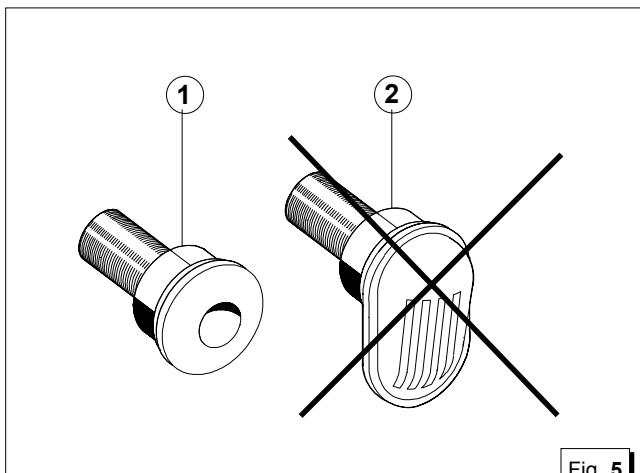

Fig. 5
Two water inlet systems are normally adopted on boats (fig. 5)
MASE recommends the direct intake system ref. 1 fig. 5 as this system prevents the entry of water under pressure into the intake pipes when the boat is moving and generates a vacuum which is easily overcome by the head of the generator water pump.